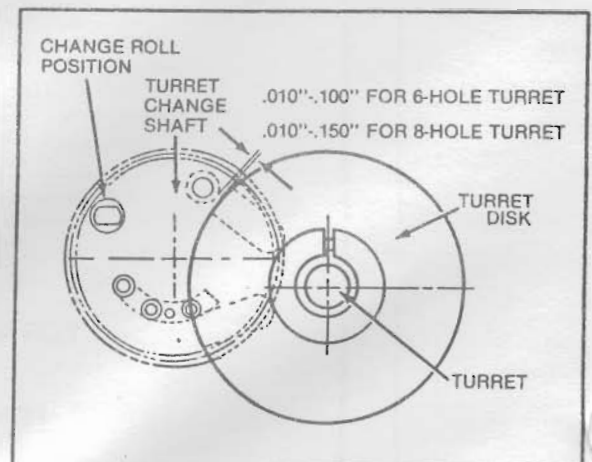
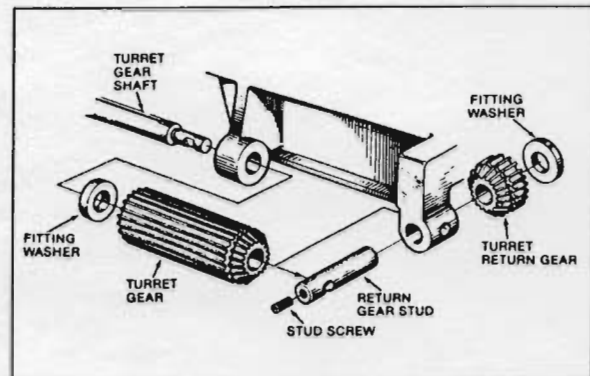

Figure 6-6
Figure 6-7
If the turret change shaft is removed for any reason it must be correctly meshed with the intermediate turret return gear for proper timing. To do this refer to Figures 6-6 and 6-7 and proceed as follows:
2. If the clearance is not correct as shown in Figure 6-6, remove the return gear stud screw, Figure 6-7, the turret gear shaft, the turret gear and the fitting washer.